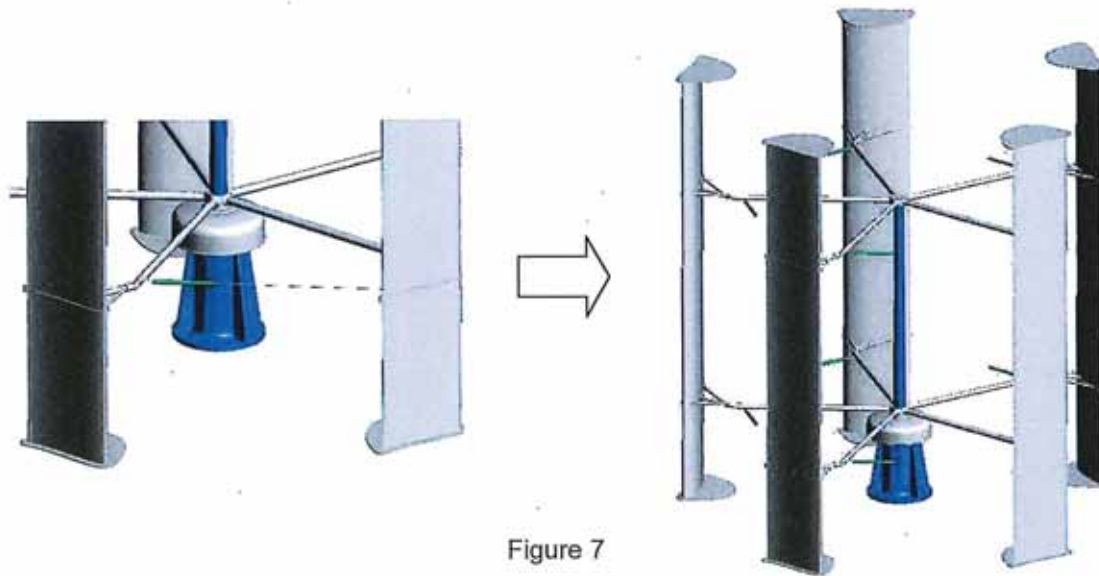

Figure 7
3.2.8 Insert the two ends of each over-speed control spring into the two holes on the long arms and short arm using the Spring Extension Tool. Refer to Figure 7.